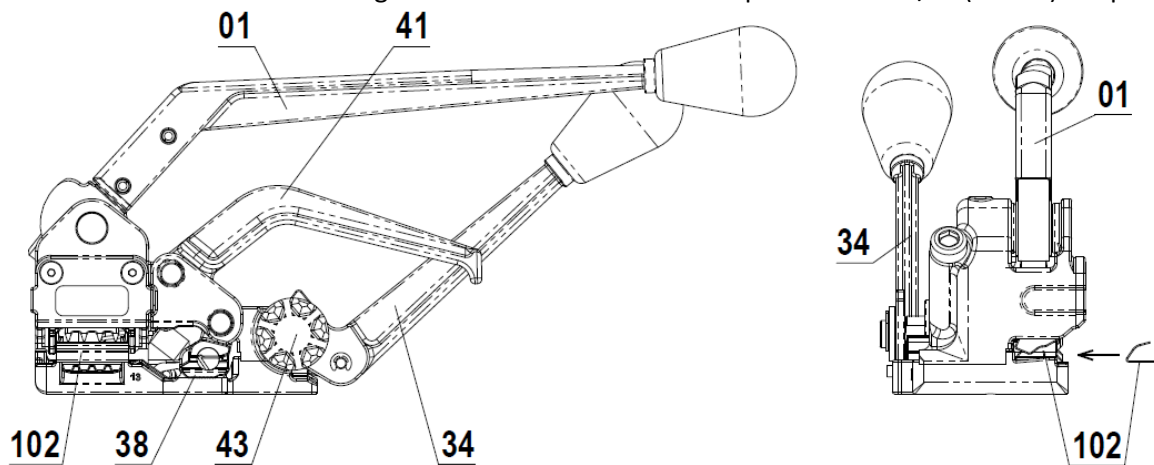

Fig. 2
1. Load a **Seal 102** as shown on Fig. 2. For MUL-342 use ST-340 open seals for 5/8" (16mm) strap.